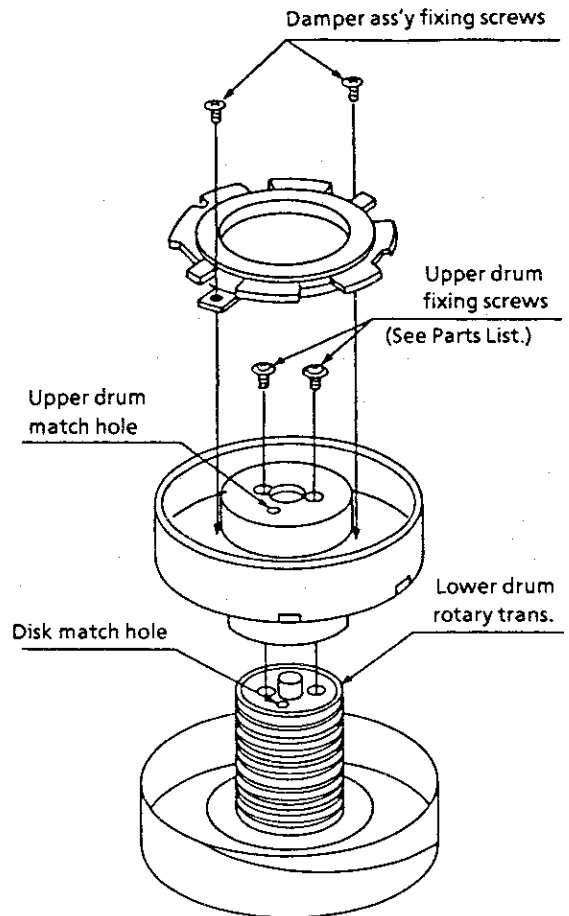

Figure. 2-24
- 3) Place the new upper drum referring to the match marks, and tighten up its two fixing screws. In installing the upper drum, be careful not to hit the rotary transformer (black, cylindrical ferrite core) of the lower drum and that (black, cylindrical ferrite core) of the upper drum against each other. (See Fig. 2-24)